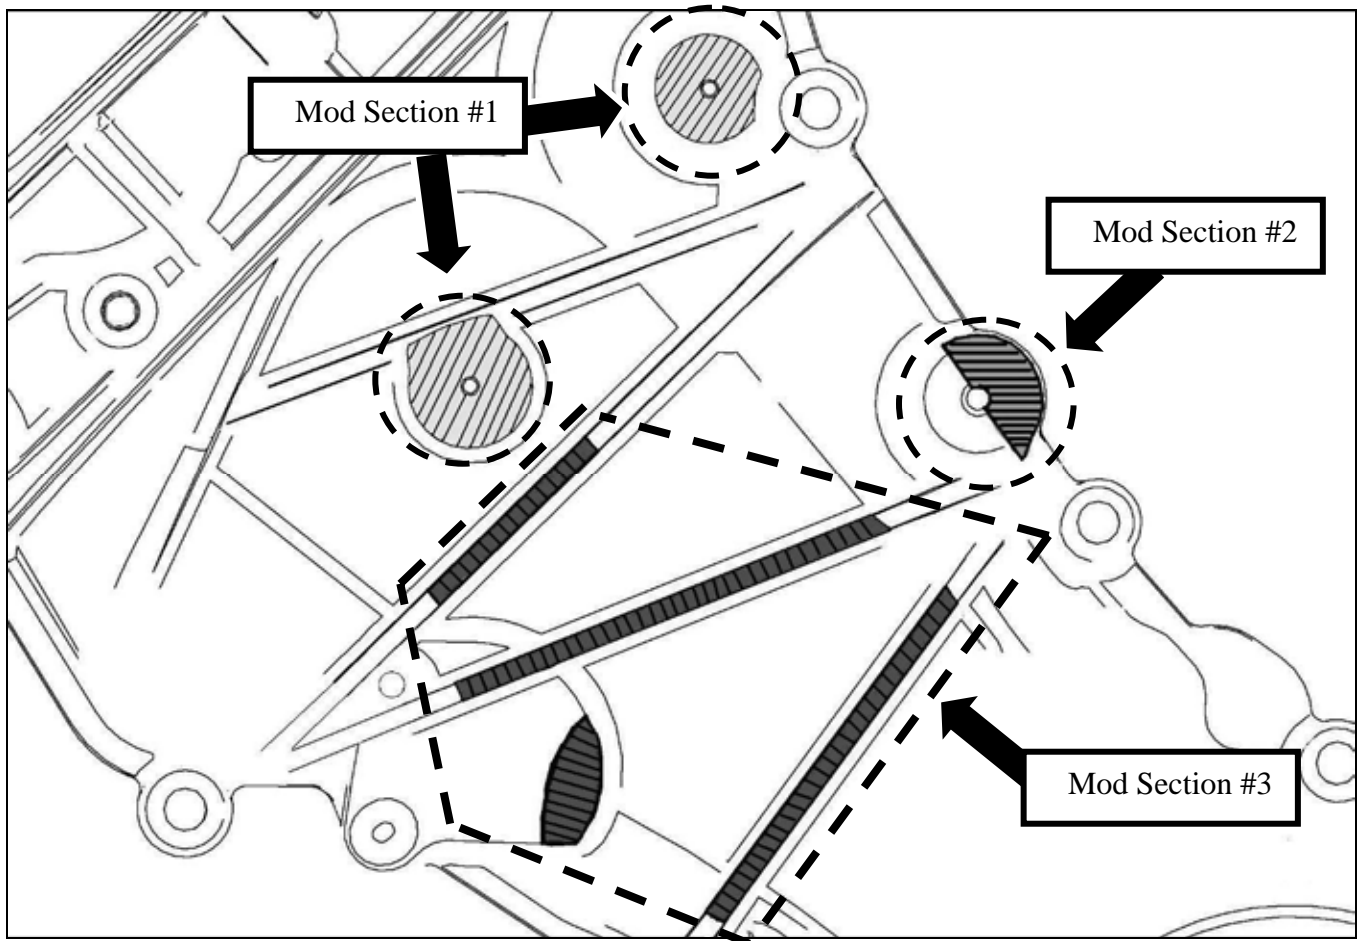
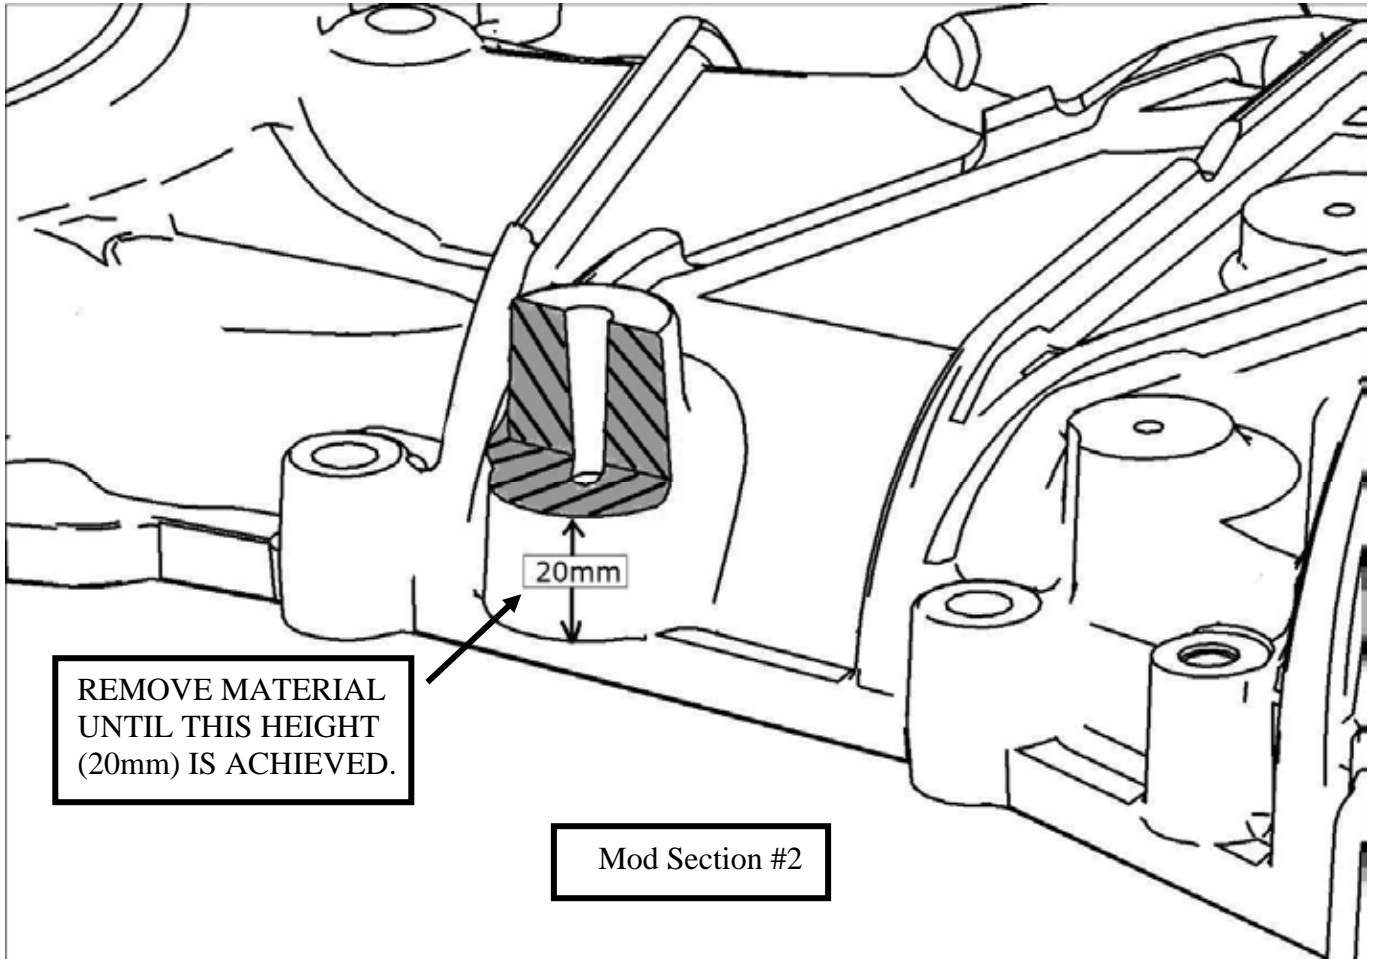

Figure 1
Figure 3
1. Using a grinder or cut off wheel, modify the front cover in the areas shown. Two bosses, labeled Mod Section #1 below, need to be reduced in height such that they are flush, or lower, than the height of the nearby rib structure (see Figures 1 and 2). The boss labeled "Mod Section #2" needs to be modified as shown in Figure 3. The remaining areas labeled "Mod Section #3" are portions of the rib structure which need to be removed completely (cut flush to the surface of the front cover). Refer to figure 4. Be careful not to remove too much material in these areas as permanent damage to the front cover could occur.